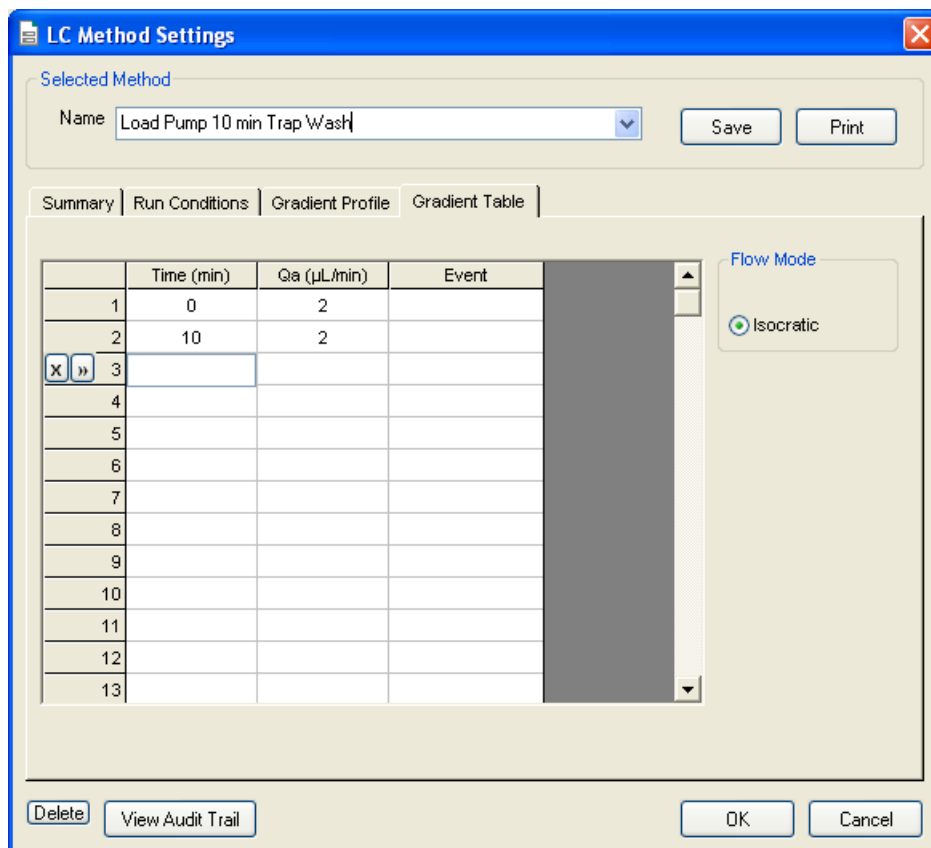

Figure 2-14 LC Method Settings dialog—Gradient Table tab
- On the **Gradient Table** tab, revise the method for the loading pump (the loading pump will be the pump with the microflow module), as shown in Figure 2-14.